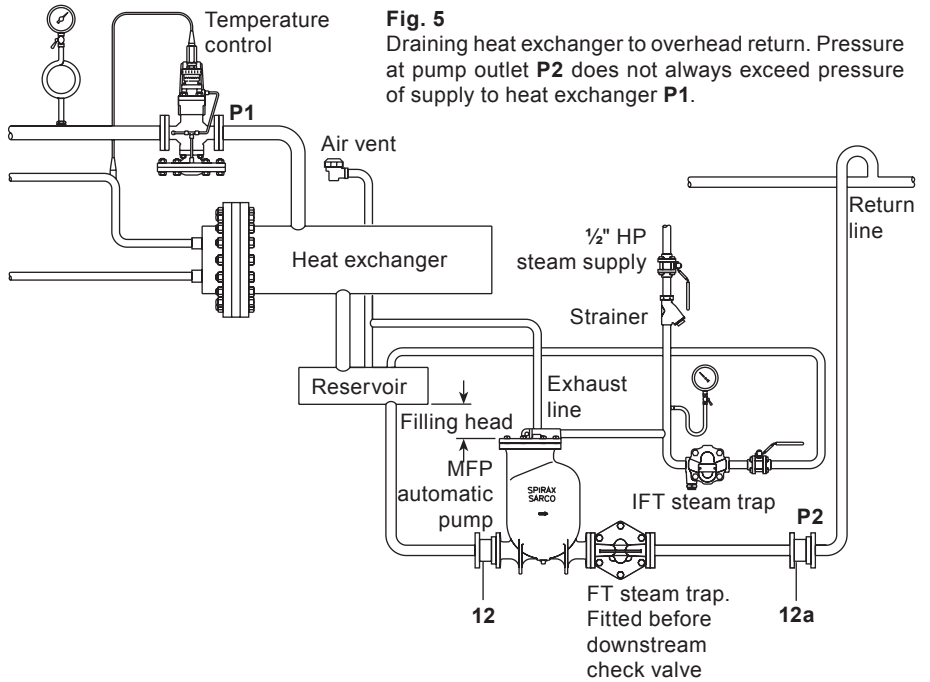

Fig. 5
6. If, at any time, the backpressure against the pump is less than the pressure in the equipment being drained, a properly sized float and thermostatic trap must be installed between the pump and discharge check valve as shown in Fig. 5.